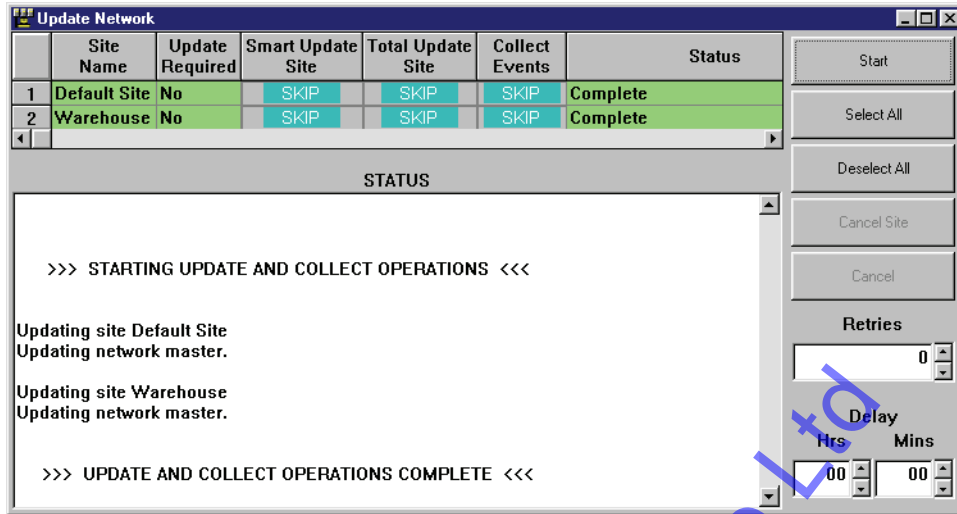

Figure 8-19: Multiple Site Successful Network Update
6. When the update process has been completed, the Update Network window should look similar to Figure 8-19 on page 18 of this section.